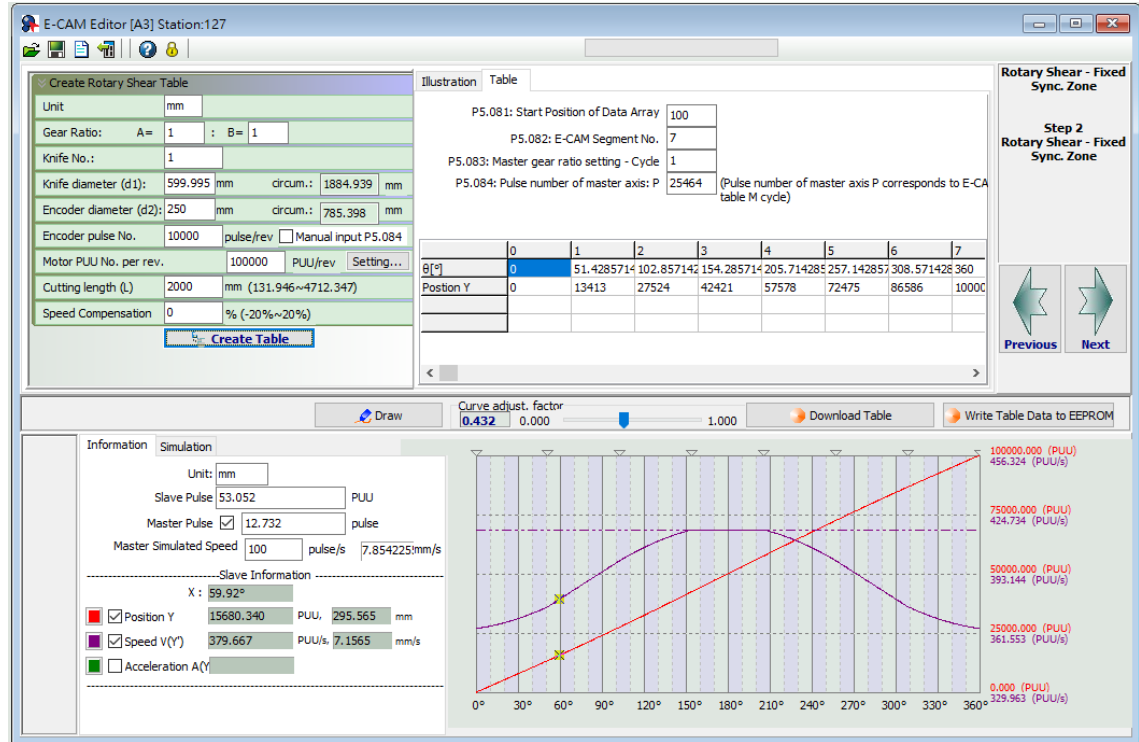

Figure 7-105 SureServo2 Pro setting interface for [Rotary Shear- Fixed Sync. Zone]
This method allows you to create a rotary shear curve with fixed synchronous speed zone, which range is fixed to 51°. You can use SureServo2 Pro to create the table, which parameter setting is similar to the curve for rotary shears without synchronous speed zone, as shown in Figure 7-105. The software automatically limits the cutting length by referring to the ratio (R) of the cutting length (L) and the arc length between cutter ends (a); $R = L / a$; $R = 0.07 - 2.5$.